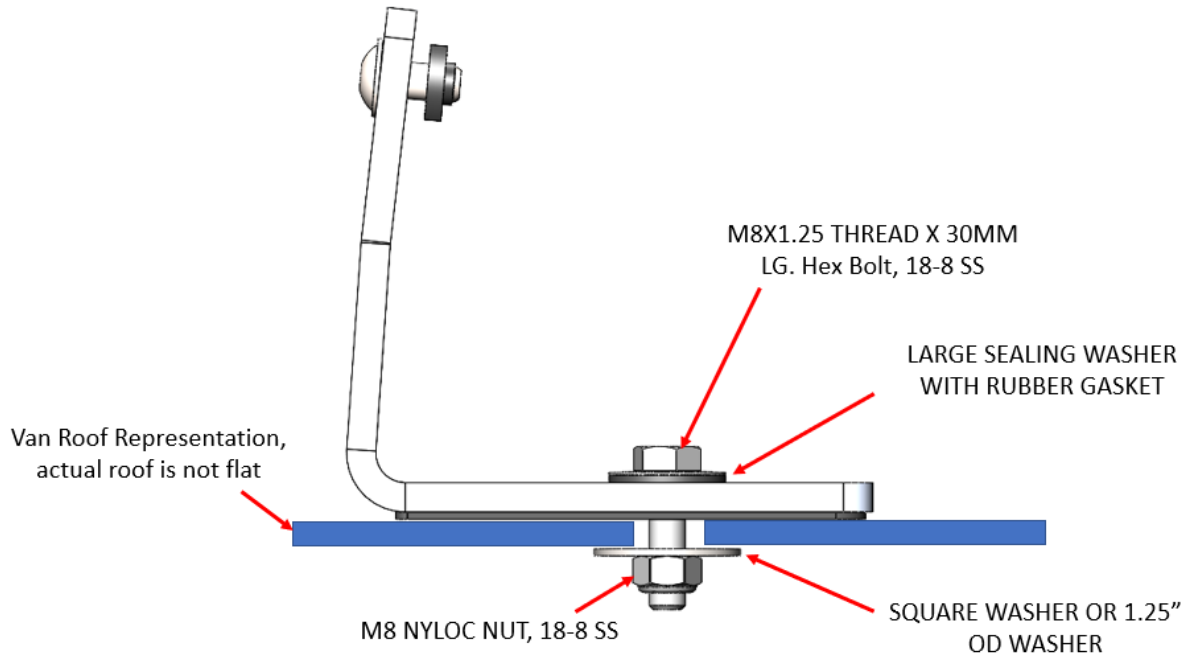

Figure 8: Transit rear bracket hardware
- b. Insert the M8 bolt through the sealing washer, and the rear bracket, and into the van as shown in Figure 8